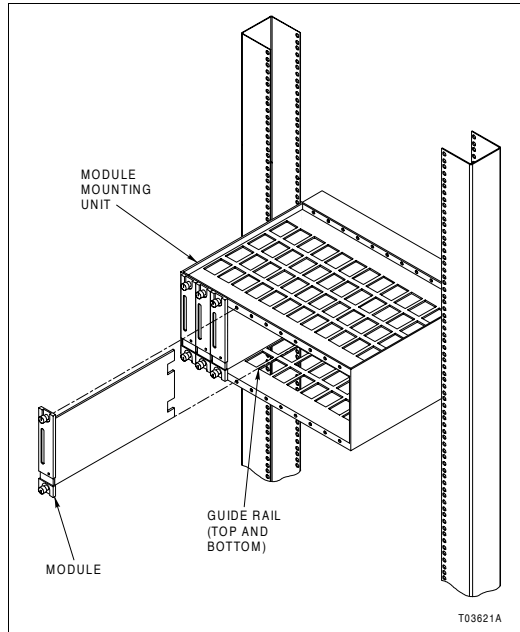

Figure PR13-1. Module Removal
- 3. Slide the module out of the module mounting unit (Fig. PR13-1).